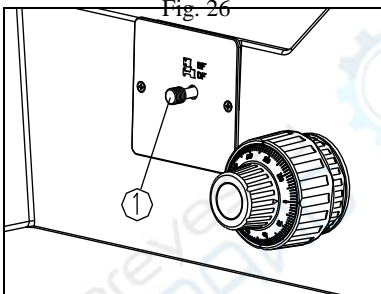

Fig. 27
The knob ① can switch dark field and bright field. (Fig.27)